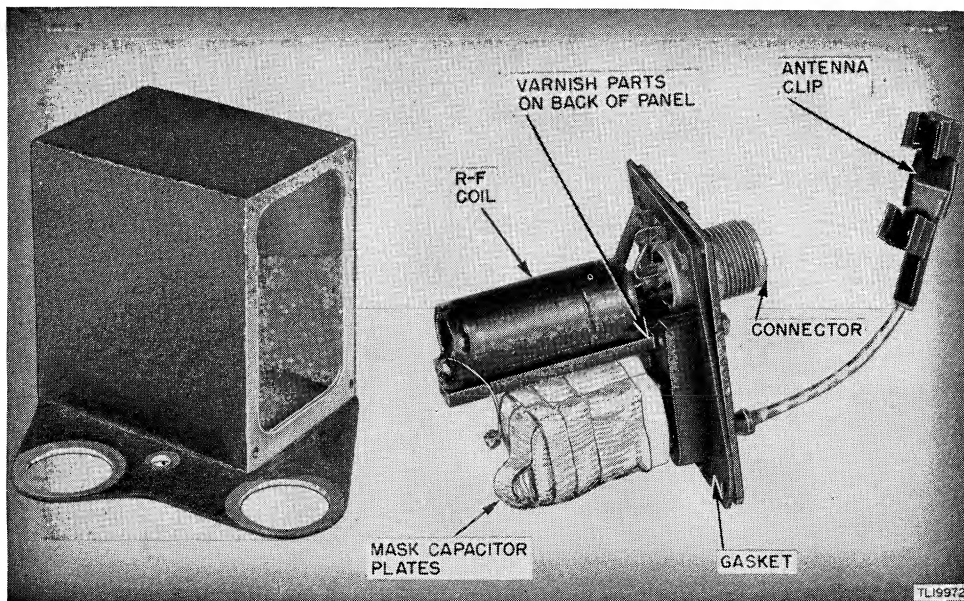

Figure 45. Coupling unit, masking.
(4) Tuning capacitor in the coupling unit. (See fig. 45.)
f. VARNISHING (par. 43f). (1) Apply varnish by brush to the wires and insulators on the loop trimmer capacitor, and to the wires, insulators, and transformer of the coupling unit.
(4) Disconnect the transmission line from the coupling unit.
(5) Remove the four screws from the corners of the coupling unit panel. (See fig. 45.)
(6) Pull the panel forward. All of the components are mounted on the panel. The container does not require any treatment.